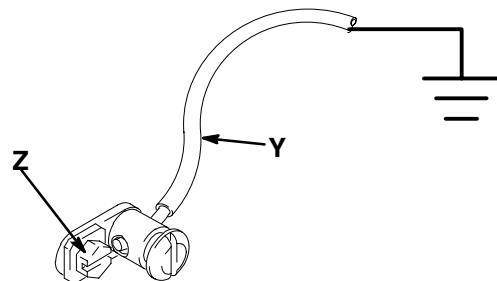

Fig. 2
1. Pump: use a ground wire and clamp as shown in Fig. 2. Remove the ground screw (Z) and insert through the eye of ring terminal at end of ground wire (Y). Fasten the ground screw back onto the pump and tighten securely. Connect the other end of the ground wire to a true earth ground.